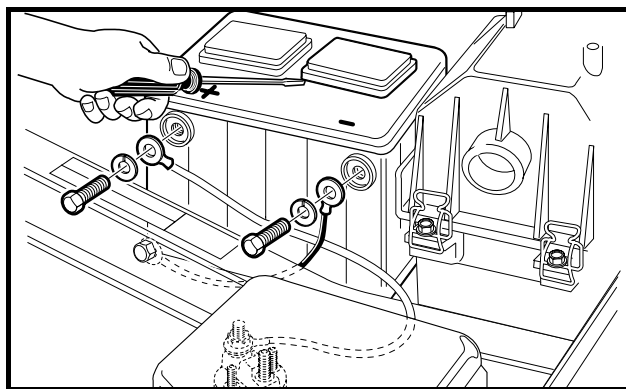

Figure 25 Battery
The battery in the vehicle is a 12-volt, low-maintenance battery that requires infrequent checks (**Figure 25**). Electrolyte level should be checked semiannually.
5. Use a flat blade screwdriver, and carefully remove the battery cell caps from the battery (**Figure 25**). **See following WARNING.**